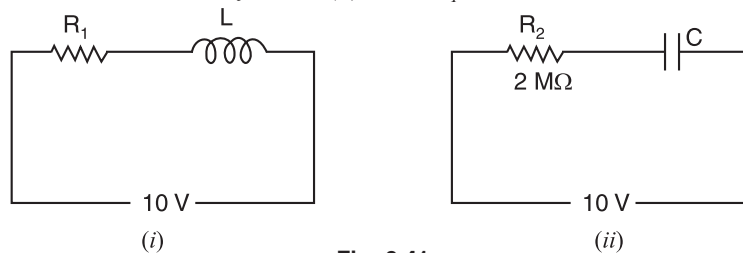

Fig. 9.41
**Example 9.61.** The two circuits of Fig. 9.41 have the same time constant of 0.005 second. With the same d.c. voltage applied to the two circuits, it is found that steady state current of circuit (i) is 2000 times the initial current of circuit (ii). Find  $R_1$ ,  $L$  and  $C$ .
Steady state current in Fig. 9.41 (i)  $= V/R_1 = 10/R_1$
Initial current in Fig. 9.41 (ii)  $= V/R_2 = 10/2 \times 10^6 = 5 \times 10^{-6} \text{ A}$